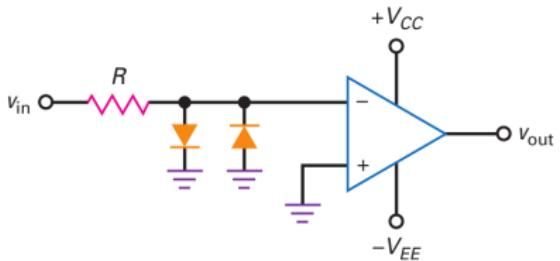

Figure 4: Inverting comparator with clamping diodes
- Sometimes, we may prefer to use an inverting comparator like Fig. 4.
- ▶ Fig. 4 is a practical example.
- ▶ In any case, we can protect a comparator against destructively large input voltages by using the diode clamps shown in Fig. 4.